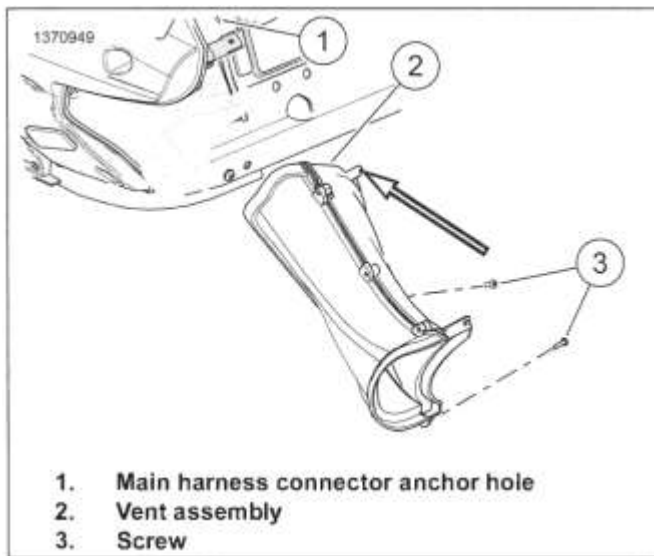

Figure 3-115. Lower Air Vent Assembly (right side shown)
3. See Figure 3-115. Release main harness connector anchor from hole (1) in radio mount bracket.
4. Remove two screws (3).
5. Remove air vent assembly (2).
See Figure 3-115. Hole in tab must engage pin on inner fairing (see arrow).